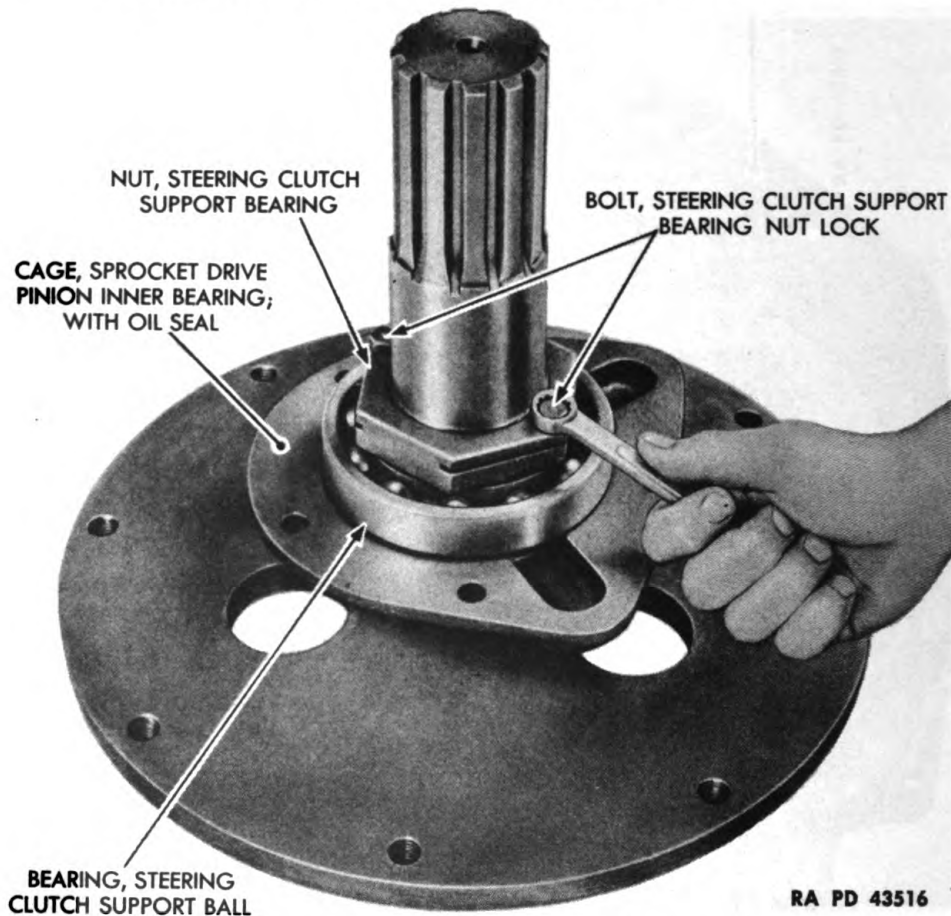

Figure 130 — Sprocket Drive Pinion Shaft Disassembly
(3) REMOVE STEERING CLUTCH SUPPORT BEARING AND OIL SEAL (fig. 130).
(3) ASSEMBLE SPROCKET DRIVE PINION SHAFT (fig. 130).